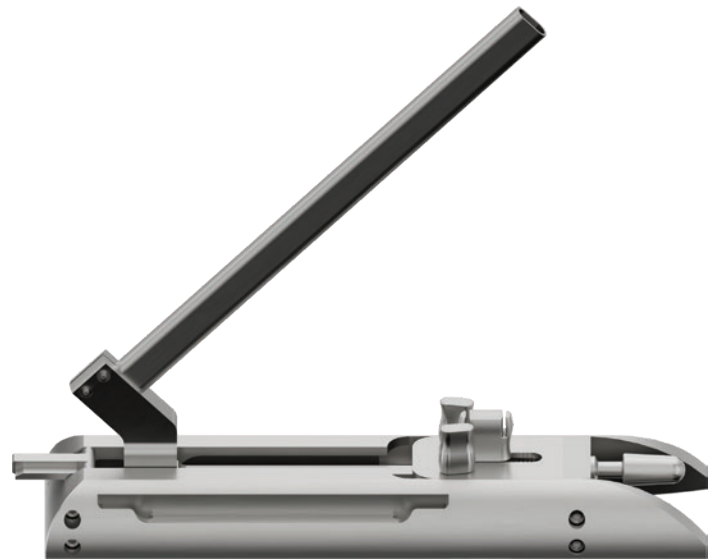

Fig. 2: Table Plate Bender
Should bending of the plate be required, the Table Plate Bender (ref 702900) may be used (Fig. 2).